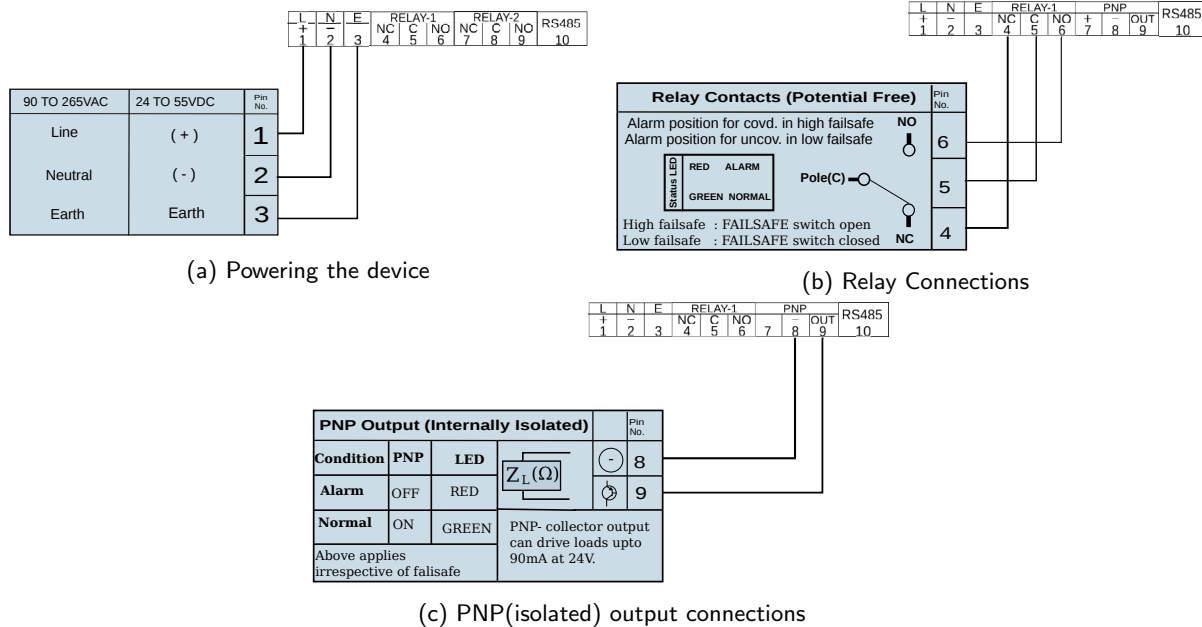

Figure 4: Electrical Connections
1. **Testing Electrical Connections:** Before mounting the device on the tank, understand and test the connections outside the tank for at least one piece. For details on connections, refer to Figure 4 before connecting the device to outputs and power supply.
Electrical connections for the instrument will change with the models. Please refer to Figure 4 and the precautions mentioned below before connecting the device.